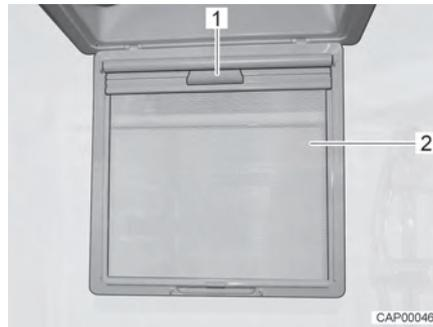

Fig. 52 Blind
- Fold insect screen (Fig. 52,2) downward.
- Pull blind down by the handle (Fig. 52,1) until it engages on the opposite side.
- Release blind at the handle (Fig. 52,1) and return it slowly to its initial position.
- Swing insect screen (Fig. 52,2) upwards until it latches in place.